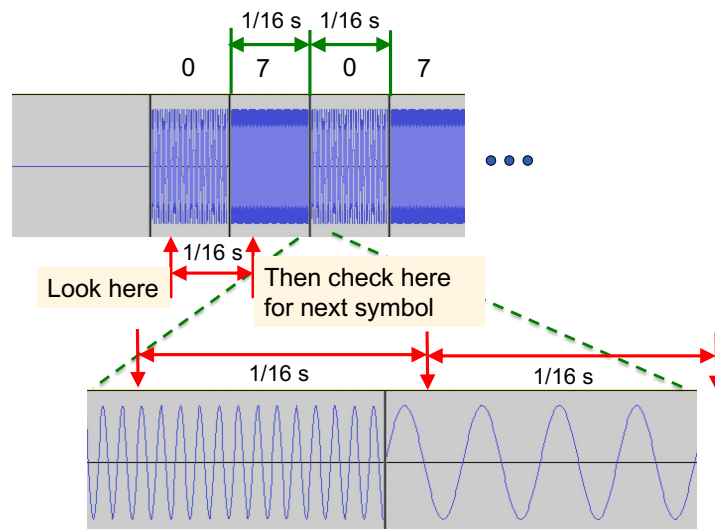

Figure B.1: An ideal waveform showing the period from idle to the first 4 symbols (0707).
Recall that in the base Music Code protocol, the symbols are transmitted at exactly a rate of 16 symbols per second. Figure B.1 shows the waveform of the first 4 symbols. Starting with no sound, transmission of a Music Code streamlet begins with bursts of sine waves that last for  $1/16$  seconds each. As a result, once you have begun detecting the first symbol, you need to revisit the waveform at least every  $1/16$  seconds to look for the next symbol.
*Hint:* To increase the accuracy of your detector, you may consider delaying the detection point slightly as in Figure B.1 to avoid the period of time when the sine wave frequency changes. However, you do not want to delay too long such that you will miss the waves before the end of the  $1/16$  seconds period.